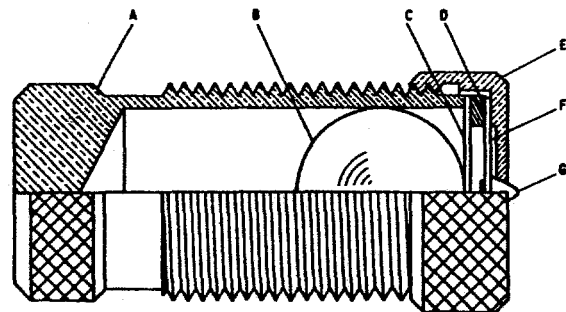

Fig. 3 Stationary Contact Assembly
The contacts are especially constructed to suppress bouncing (Fig. 3). The stationary contact (G) is mounted on a flat spiral spring (F) backed up by a thin diaphragm (C). These are both mounted in a slightly inclined tube (A). A stainless steel ball (B) is placed in the tube before the diaphragm is assembled. When the moving contact hits the stationary contact, the energy of the former is imparted to the latter and thence to the ball, which is free to roll up the inclined tube. Thus, the moving contact comes to rest